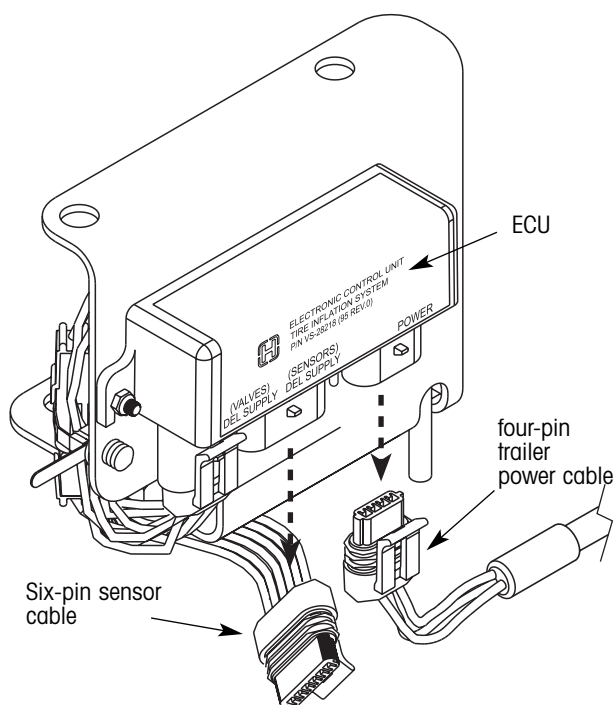

Figure 28. Unplugging the power and sensor cables
- Unplug the four-pin trailer power cable from the controller assembly ECU (figure 28).
- Unplug the six-pin sensor cable from the controller assembly ECU (figure 28).